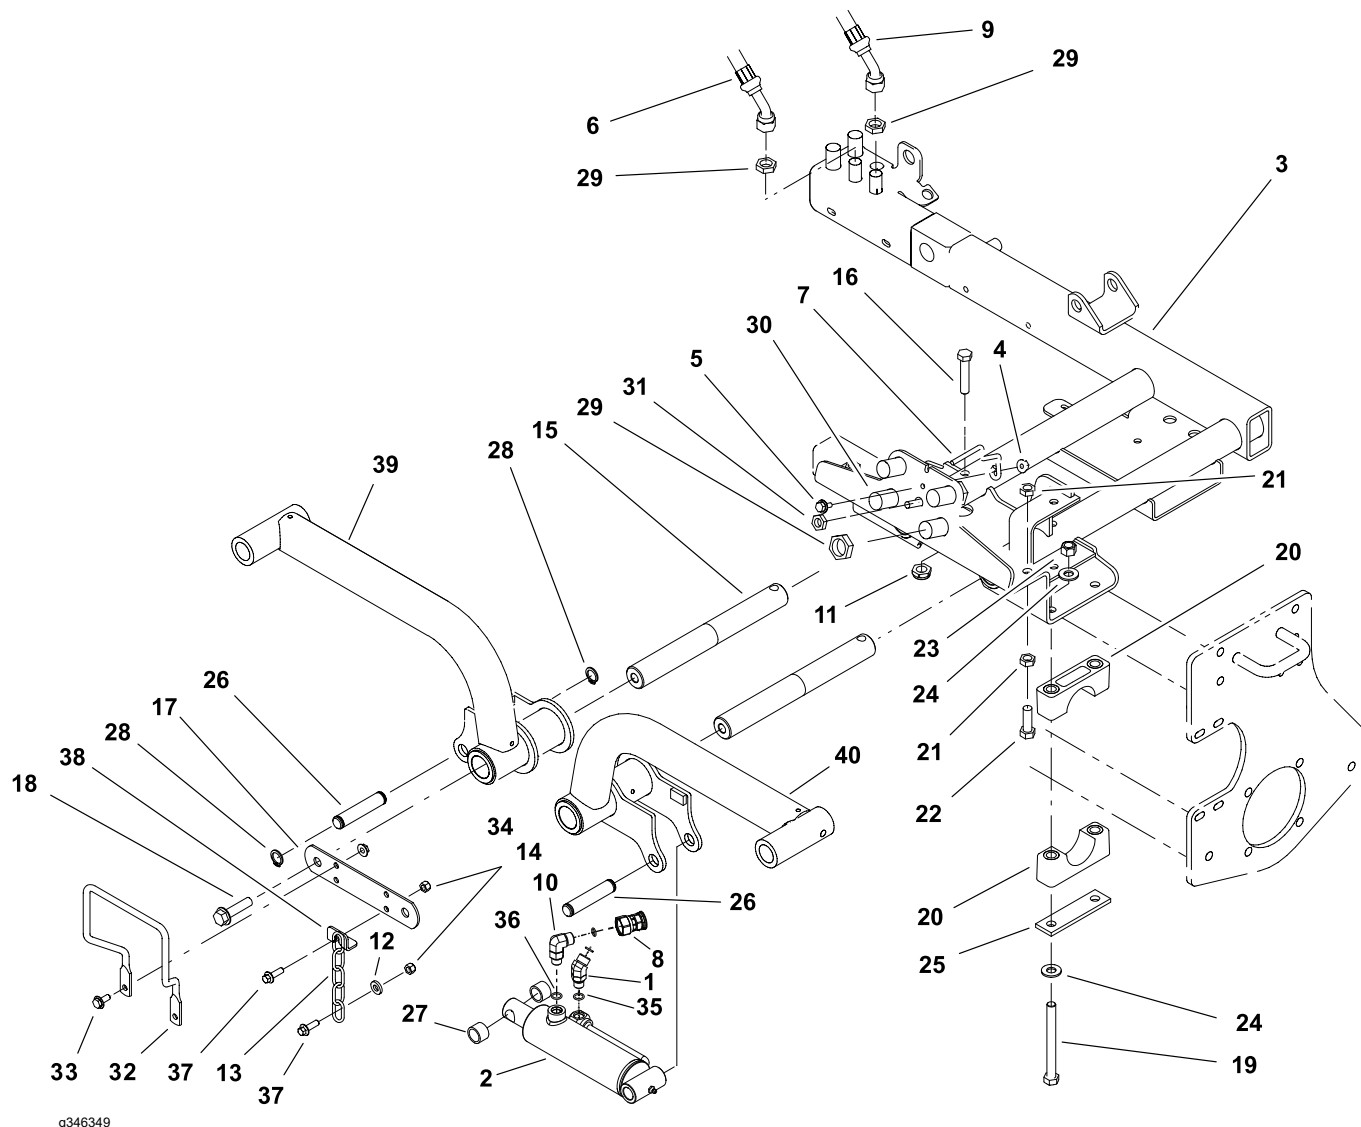

Figure 160
6. Disassemble lift arm as necessary using Figure 160 as a guide.
1. Assemble the lift arm using Figure 160 as a guide.